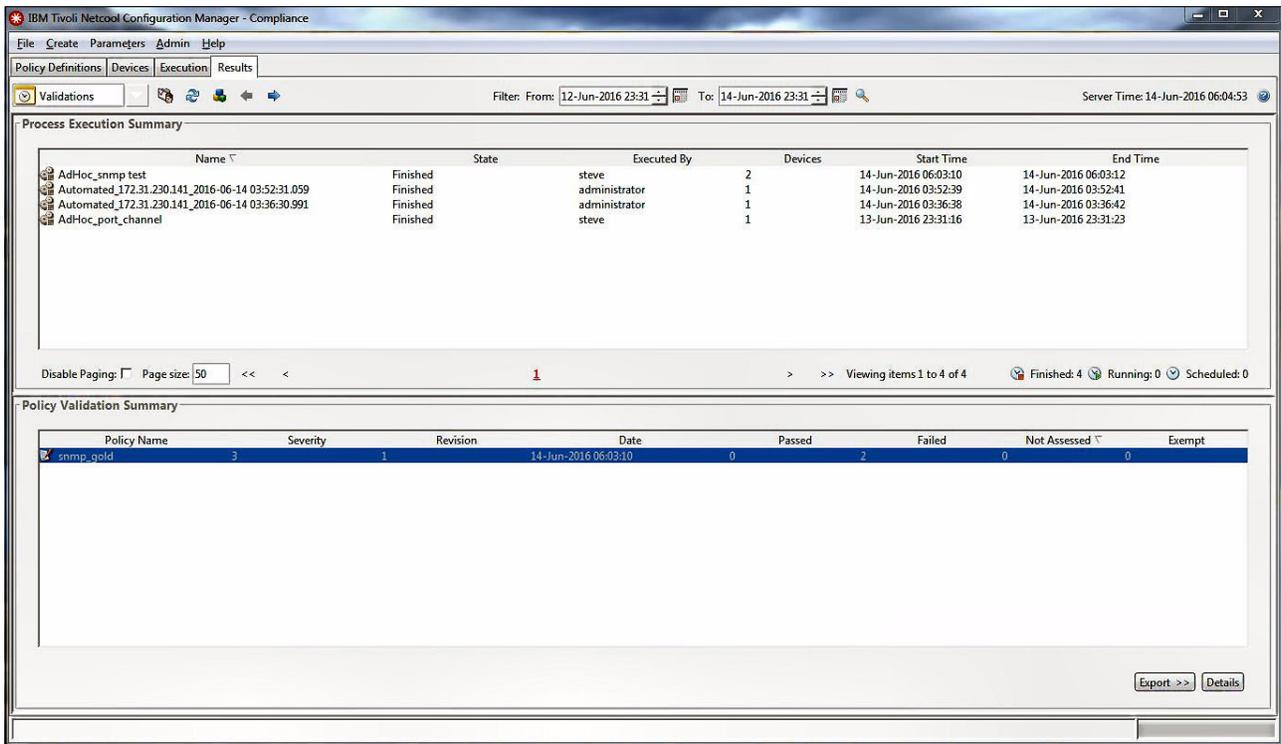

Figure 4-19 Selecting Policy Validation Summary
- After the policy completes, click it in the Process Execution Summary pane and then, double-click the policy name in the Policy Validation Summary pane at the bottom of the window as shown in Figure 4-19.